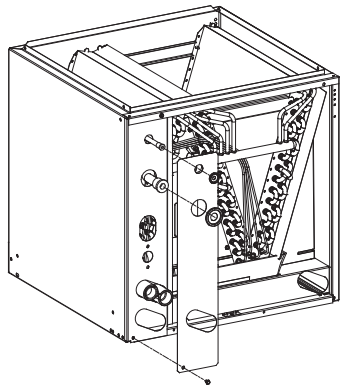

Fig. 10 - Header Plate Installation
- Slide **new header plate** and **grommets** over tubing and condensate pan connections and secure it to the header panel to cover up oversized and additional holes. This will provide an airtight seal and better installation presentation. See Fig. 10.